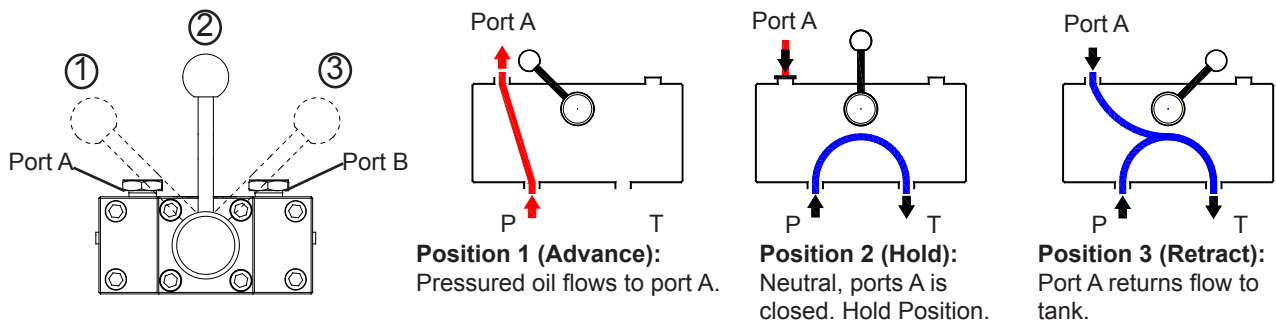

Figure 3- Schematic flow path, valve position of 3-way, 3-position valve for Single Acting Cylinder
6. Use the control valve lever to control the direction of fluid flow. These pumps are equipped with a 3-way 3-position valve for use with single acting cylinder applications **ONLY**. Refer to Figure 3 below for the flow path.
11. Depressurize all connections before disconnect. If you have any questions, call BVA Technical Service @ (888)-332-6419.